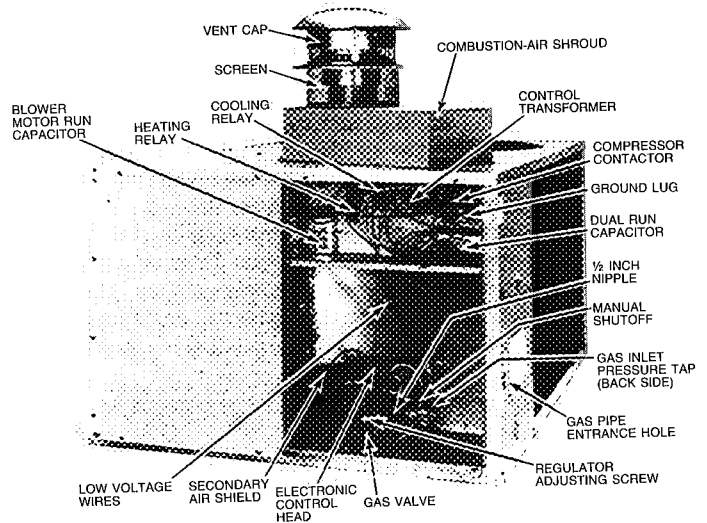

Fig. 6—Model 48KLA136—Side View (Partial) with Access Doors Removed
**Step 2—Make Gas Piping Connections**—A manual shutoff valve is shipped loose in the burner compartment or blower compartment. Connect one end of a field-supplied  $\frac{1}{2}$ -in. straight nipple to the gas valve inlet. Connect the other end of the nipple to the manual shutoff valve as shown in Fig. 6. The gas supply pipe enters unit through access hole provided. See Fig. 4 for location. The gas connection to unit is made to the  $\frac{1}{2}$ -in. FPT gas inlet on manual shutoff. See Fig. 6 for inlet location.
2. Run high-voltage leads into unit control box and connect to contactor. See unit wiring label and Fig. 6 and 8.
For operation on 208 volts, disconnect orange transformer-primary lead from contactor. See unit wiring label and Fig. 6. Remove tape and cover from terminal on end of red transformer-primary lead. Save cover. Connect red lead to contactor terminal from which orange lead was disconnected.
A grommited, low-voltage inlet hole is located in the panel adjacent to control access panel. See Fig. 4. Run low-voltage leads from thermostat, through inlet hole and to low-voltage flagged pigtail leads that run through a hole in bottom of unit control box. See Fig. 6. Connect thermostat leads to pigtail leads as shown in Fig. 8